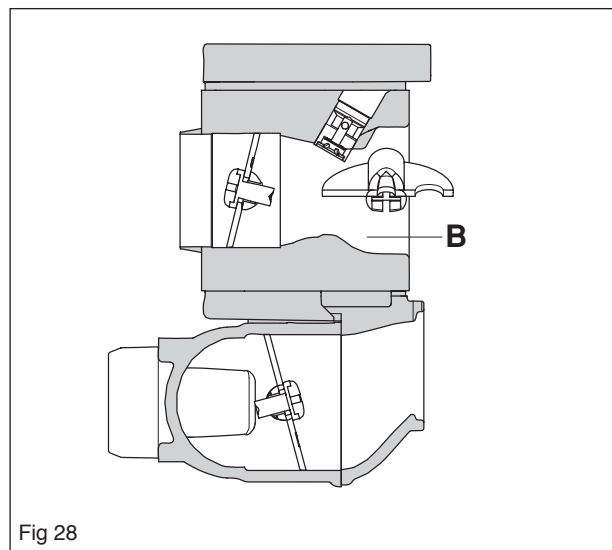

Fig 28
The mixing venturi (B) houses the choke, throttle valve and diffuser jets. Here air is mixed with the fuel to give a fuel/air mixture that can be ignited by the ignition spark. See figure 28.